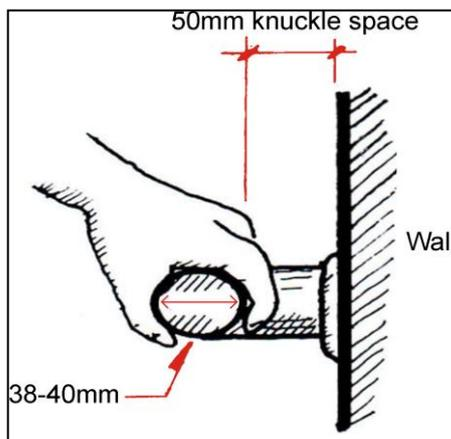

Figure 9-1. Handrail diameter
- **Diameter:** Should be circular in section with a diameter of 38-40mm (Figure 9-1).